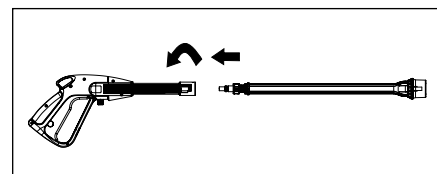

Figure 10
1. Insert quick connect lance into gun and turn clockwise to positive stop as shown in Figure 10.